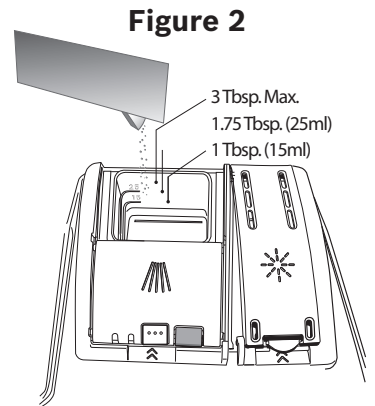

Figure 3
- Place finger as shown in **Figure 3**.